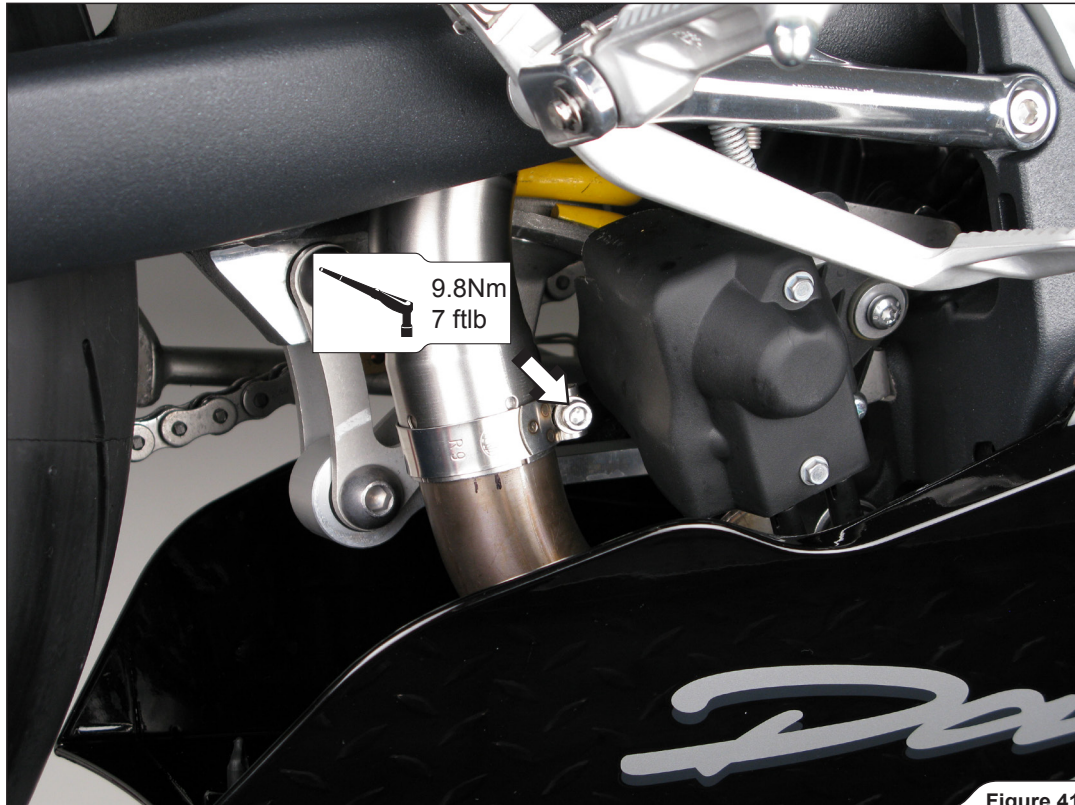

Figure 41
18. Tighten the marked metal clamp to a specified torque (**Figure 41**).